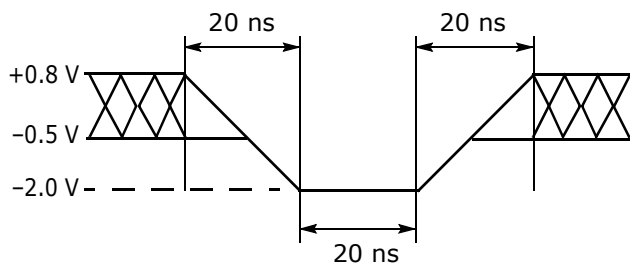
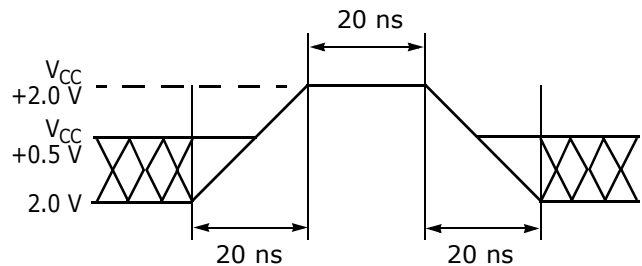

Figure 8. Maximum Negative Overshoot Waveform
Figure 9. Maximum Positive Overshoot Waveform
1. Minimum DC voltage on input or I/O pins is -0.5 V. During voltage transitions, input or I/O pins may overshoot VSS to -2.0 V for periods of up to 20 ns. Maximum DC voltage on input or I/O pins is VCC +0.5 V. See Figure 8. During voltage transitions, input or I/O pins may overshoot to VCC +2.0 V for periods up to 20 ns. See Figure 9.
2. Minimum DC input voltage on pins OE#, RESET#, and WP#/ACC is -0.5 V. During voltage transitions, OE#, WP#/ACC, and RESET# may overshoot VSS to -2.0 V for periods of up to 20 ns. See Figure 8. Maximum DC input voltage on WP#/ACC is +9.5 V which may overshoot to +12.0 V for periods up to 20 ns.